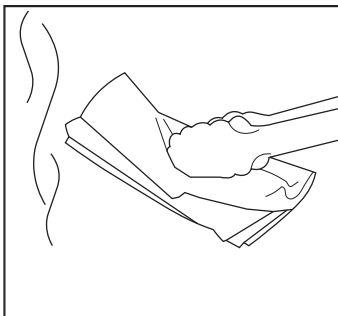

Fig. 4
STEP 03 Use tongs to hold a paper towel or cotton cloth and spread 2-3 tablespoons of your seasoning oil across the entire griddle top. (See Fig. 4)